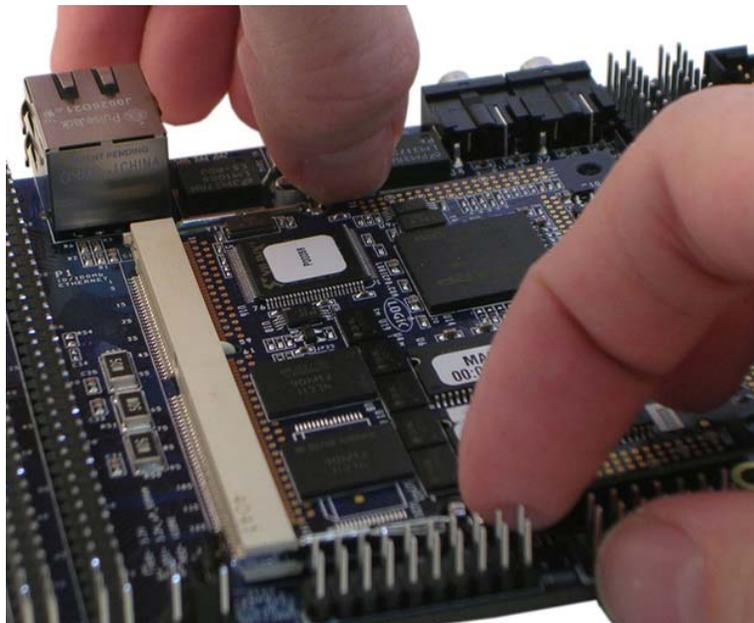

Figure 6 – Release SODIMM Connector Locks
3. Release the SODIMM connector locks (see Figure 6) and lift up on the back edge of the Card Engine until it is at the same angle as during insertion.